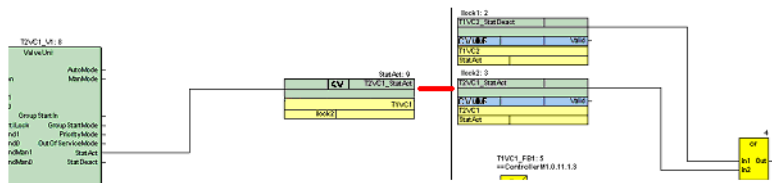

Figure 32. Interconnection Requiring CVMMS Communication
- The cross reference field of the input diagram references connected to the output diagram references of a Function Diagram which is allocated to another application, shows an additional blue CVMMS marker as shown in Figure 32.